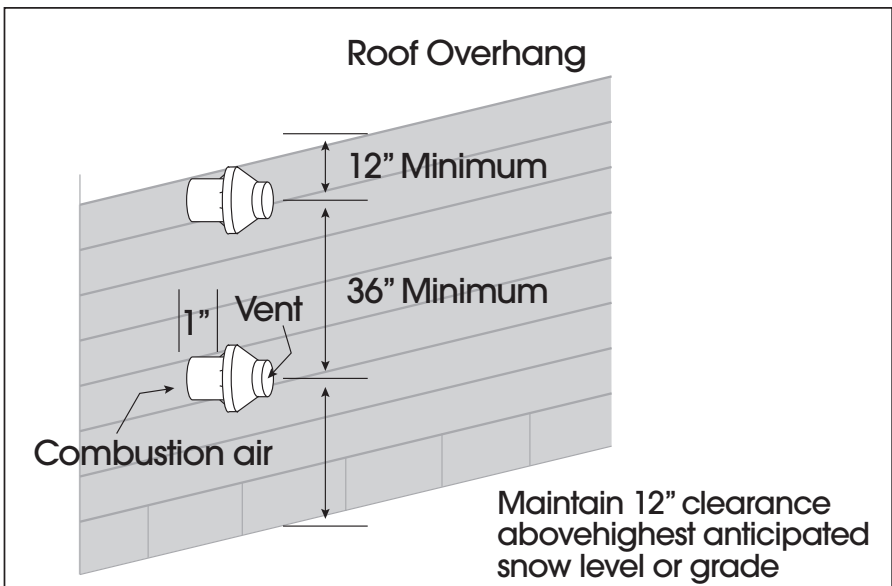

Figure 4-Sidewall Termination for Multiple Vertical Concentric Vents
- Refer to Figures 4 & 6 when venting multiple units using multiple Concentric Vents.
NOTE: Maintain clearance dimensions as shown in Figure 4, 5, 6 & 7.